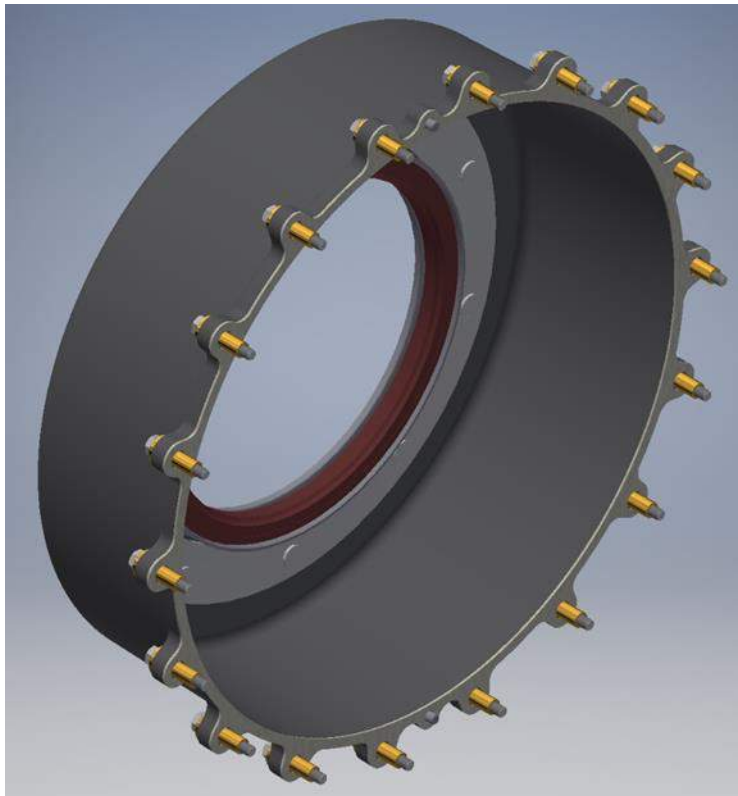

Figure 72
3. Remove the outer brake cover (figure 72 ).